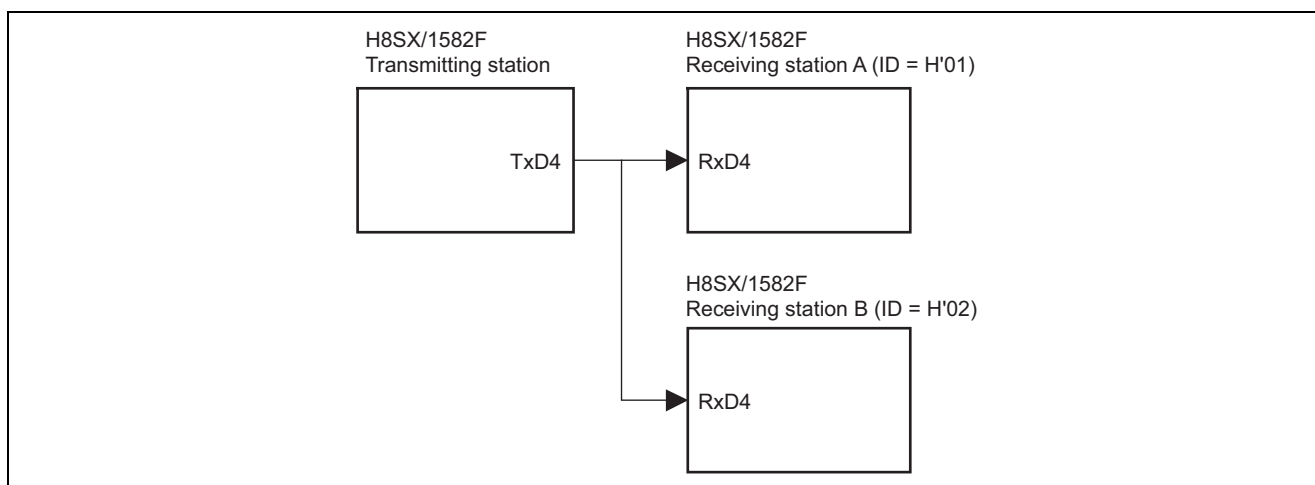

Figure 1 Inter-Processor Communication Using Multiprocessor Format Communication
- Figure 1 shows an example of connection for inter-processor communication using multiprocessor format communication.